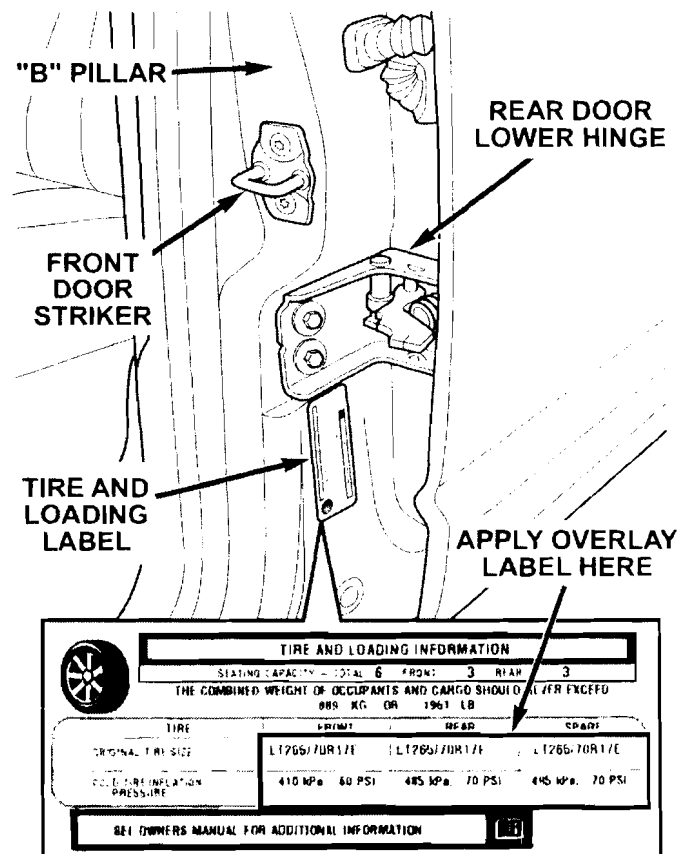

Figure 2 – Four Door Model Shown
7. Locate the Tire and Loading Information label on the "B" pillar (Figure 2).
9. Remove the enclosed Tire and Loading Information label overlay from its paper backing and carefully install it on the original label covering the incorrect tire inflation pressure information (Figure 2).